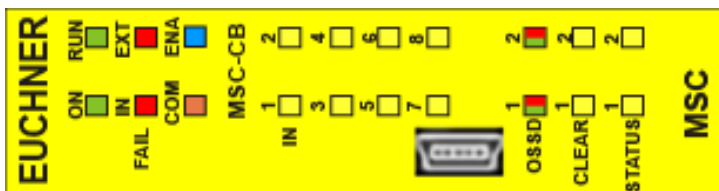

Figure 28:
8.4.1. Base unit MSC-CB (Figure 28)